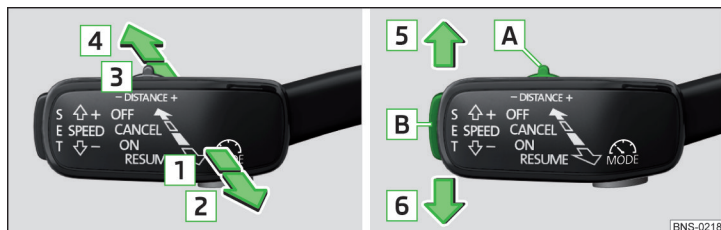

Fig. 296 Operating lever
Overview of ACC functions operated with the lever » Fig. 296
- › Press the button **SET** » Fig. 296 on page 238 .
- › **or:** Set the lever into the sprung position **RESUME** » Fig. 296 on page 238 .
- › Set the lever into the sprung position **CANCEL** » Fig. 296 on page 238 .
The desired speed can be set or changed using the control lever » Fig. 296 on page 238.
➤ Set the switch **DISTANCE Adjust** in the spring-tensioned position – or + » Fig. 296 on page 238.
Acceleration can be cancelled at any time by touch on the brake pedal or pressing the button **CANCEL** on the lever » Fig. 296 on page 238.